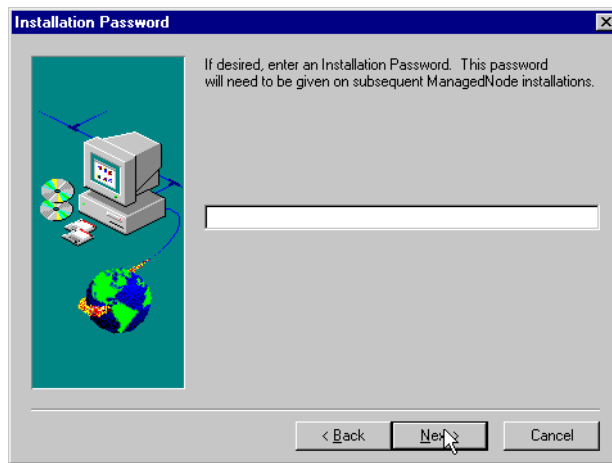

Figure 18. Installation Password
8. You will be prompted with an installation password screen as shown in Figure 18. We did not use the installation password, and you can leave it empty.